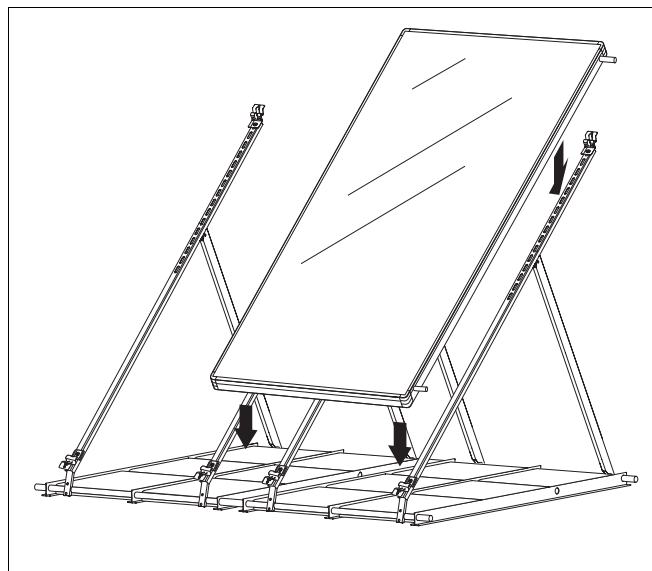

Fig. 34 Inserting the first collector
- ▶ Position the first collector (Fig. 34) centrally into the pre-assembled collector holders.